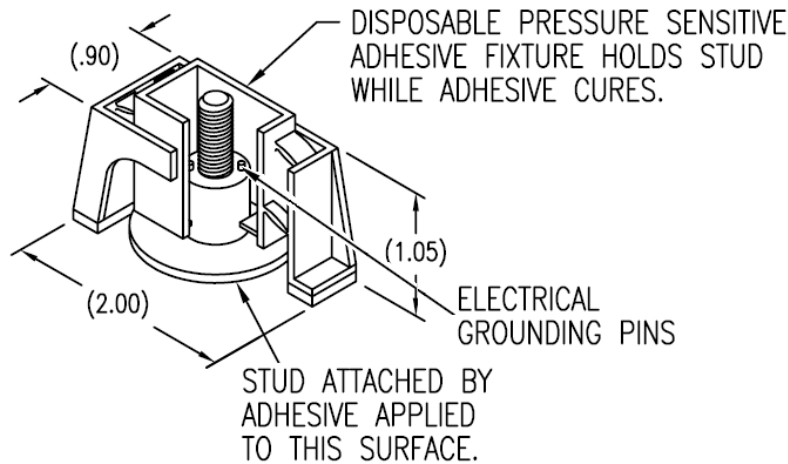

Figure 65-3
7.5 Figure 65-3 shows the ground stud configuration prior to installation.